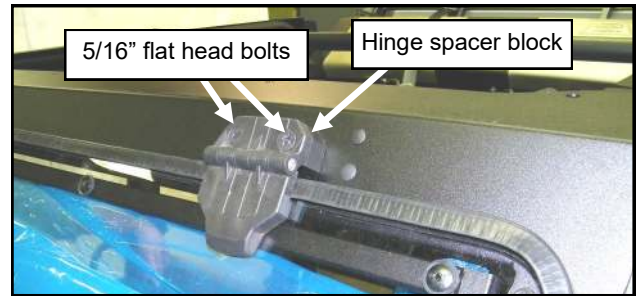

Fig. 7.1a Windshield, outside
7.1 Per figures 7.1a and b, place a hinge spacer block onto the windshield hinge and two flat head 5/16" bolts through each hinge. **Note: for glass windshields, use the thinner 5/8" thick hinge spacer blocks found in the windshield box. For polycarbonate windshields, use the thicker 3/4" thick hinge spacer blocks found in the hardware box.** Place the windshield onto the windshield support with the bolts through the slots and secure with 5/16" nuts.